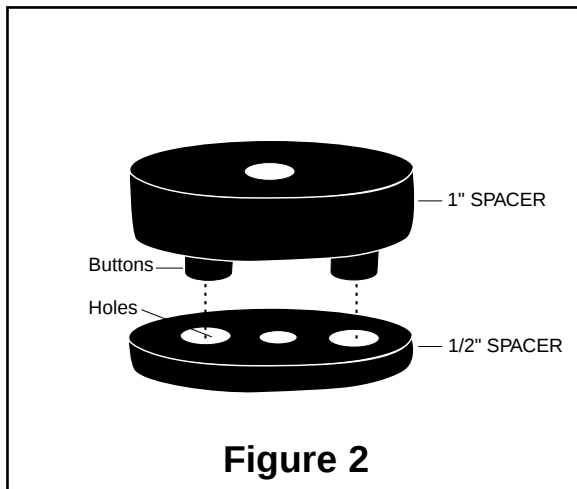

Figure 2
8. **73' and Newer Models except Monte Carlo SS** - These models will require the provided 1" spacer attached to the 1/2" spacer. Secure the two parts together by locking the buttons of the 1" spacer into the holes of the 1/2" spacer (Figure 2). **72' and Older Models** - Use the 1/2" spacer ONLY.
9. Push cylinder to the top of the coil and insert protector on top of lower spring seat (Figure 2).